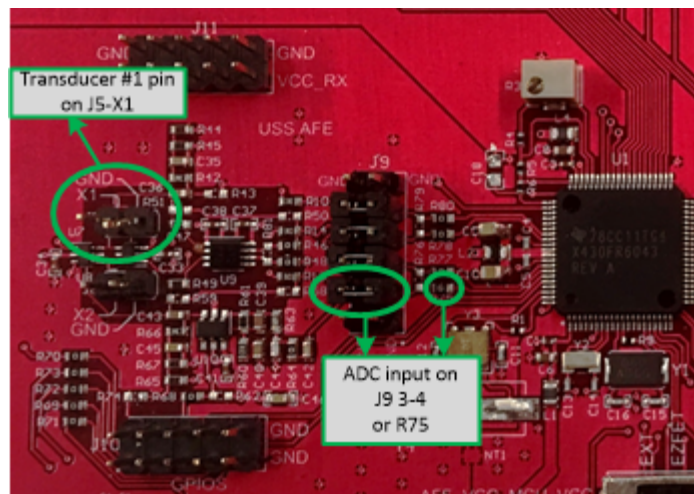

Figure 9. Oscilloscope Connections for EVM430-FR6043-E2
5. It is possible to modify some of the parameters based on a visual inspection of the waveform, or an oscilloscope can be used to observe and adjust the signals. Connect an oscilloscope to one of the transducer terminals and to the ADC input (see Figure 9).